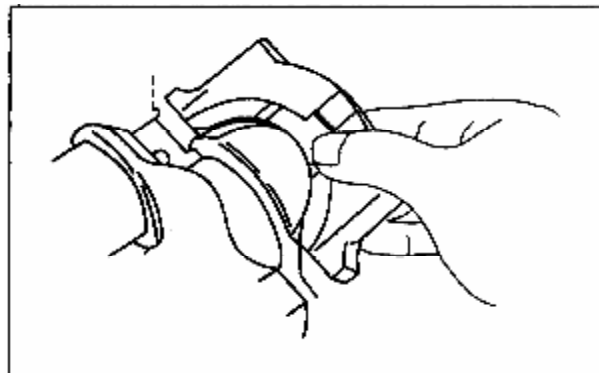
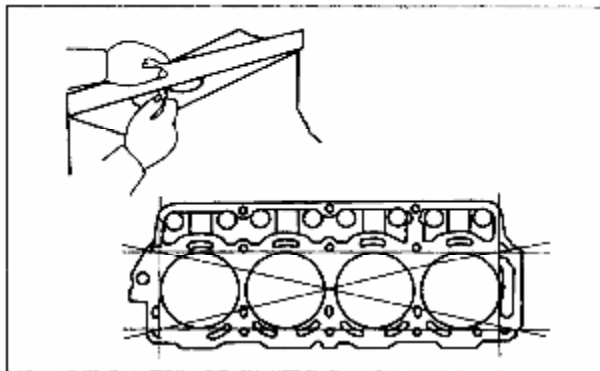

Figure 3-23 Assemble a Thrust Plate
Figure 3-24 Check Warpage on Top deck of Cylinder Block
(1) When to install a thrust plate, its side with oil groove should be outward. Never install it in adverse direction (see Figure 3-23).
(2) There are oil grooves and oil holes on the main bearing cover that is installed on cylinder block. The upper and lower covers can not be installed adversely.
3.2.5 Check cylinder block for crack and damage, and follow Figure 3-24 to check warpage on top deck of cylinder block with a fine ruler and a feeler (the value should be less than 0.05mm). If the warpage exceeds the specified limit, use surface grinder to grind the top deck of the cylinder block. Or replace the unserviceable cylinder block.